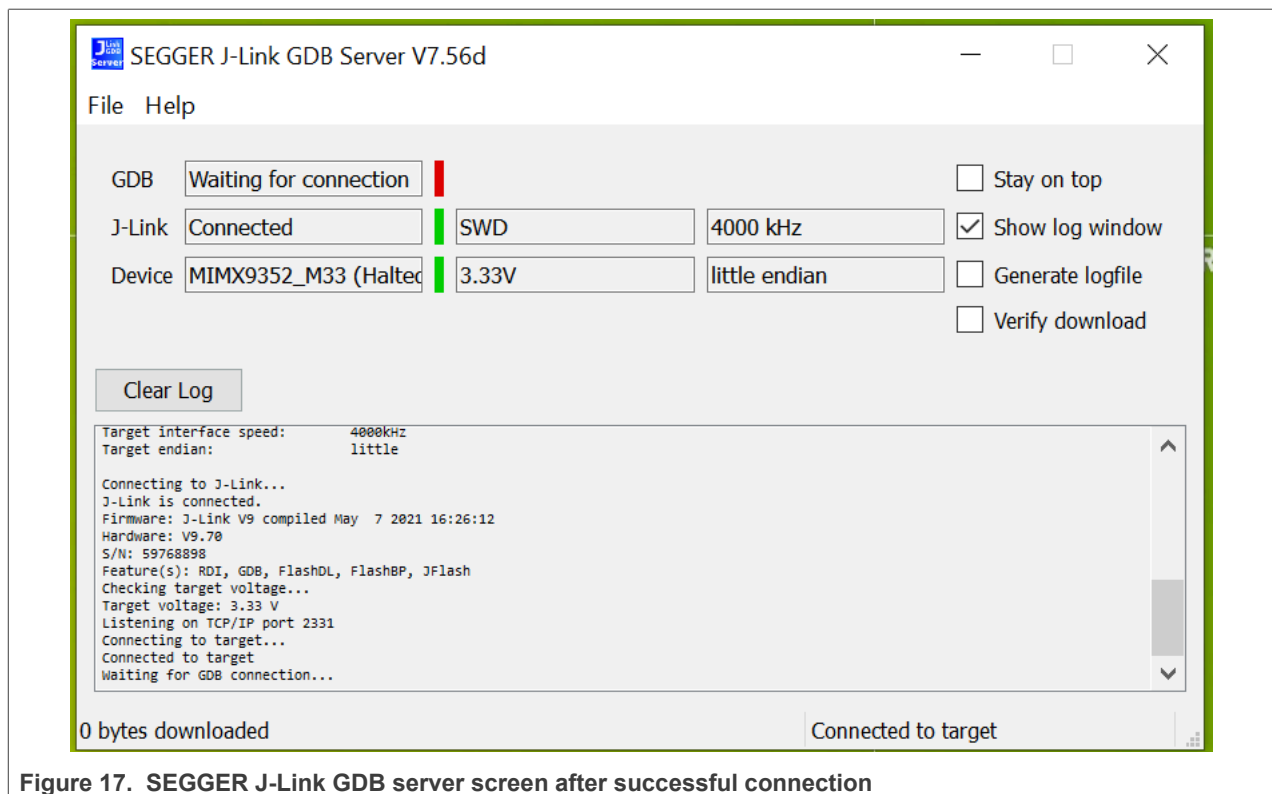

Figure 17. SEGGER J-Link GDB server screen after successful connection
8. After GDB server is running, the screen should resemble Figure 17: